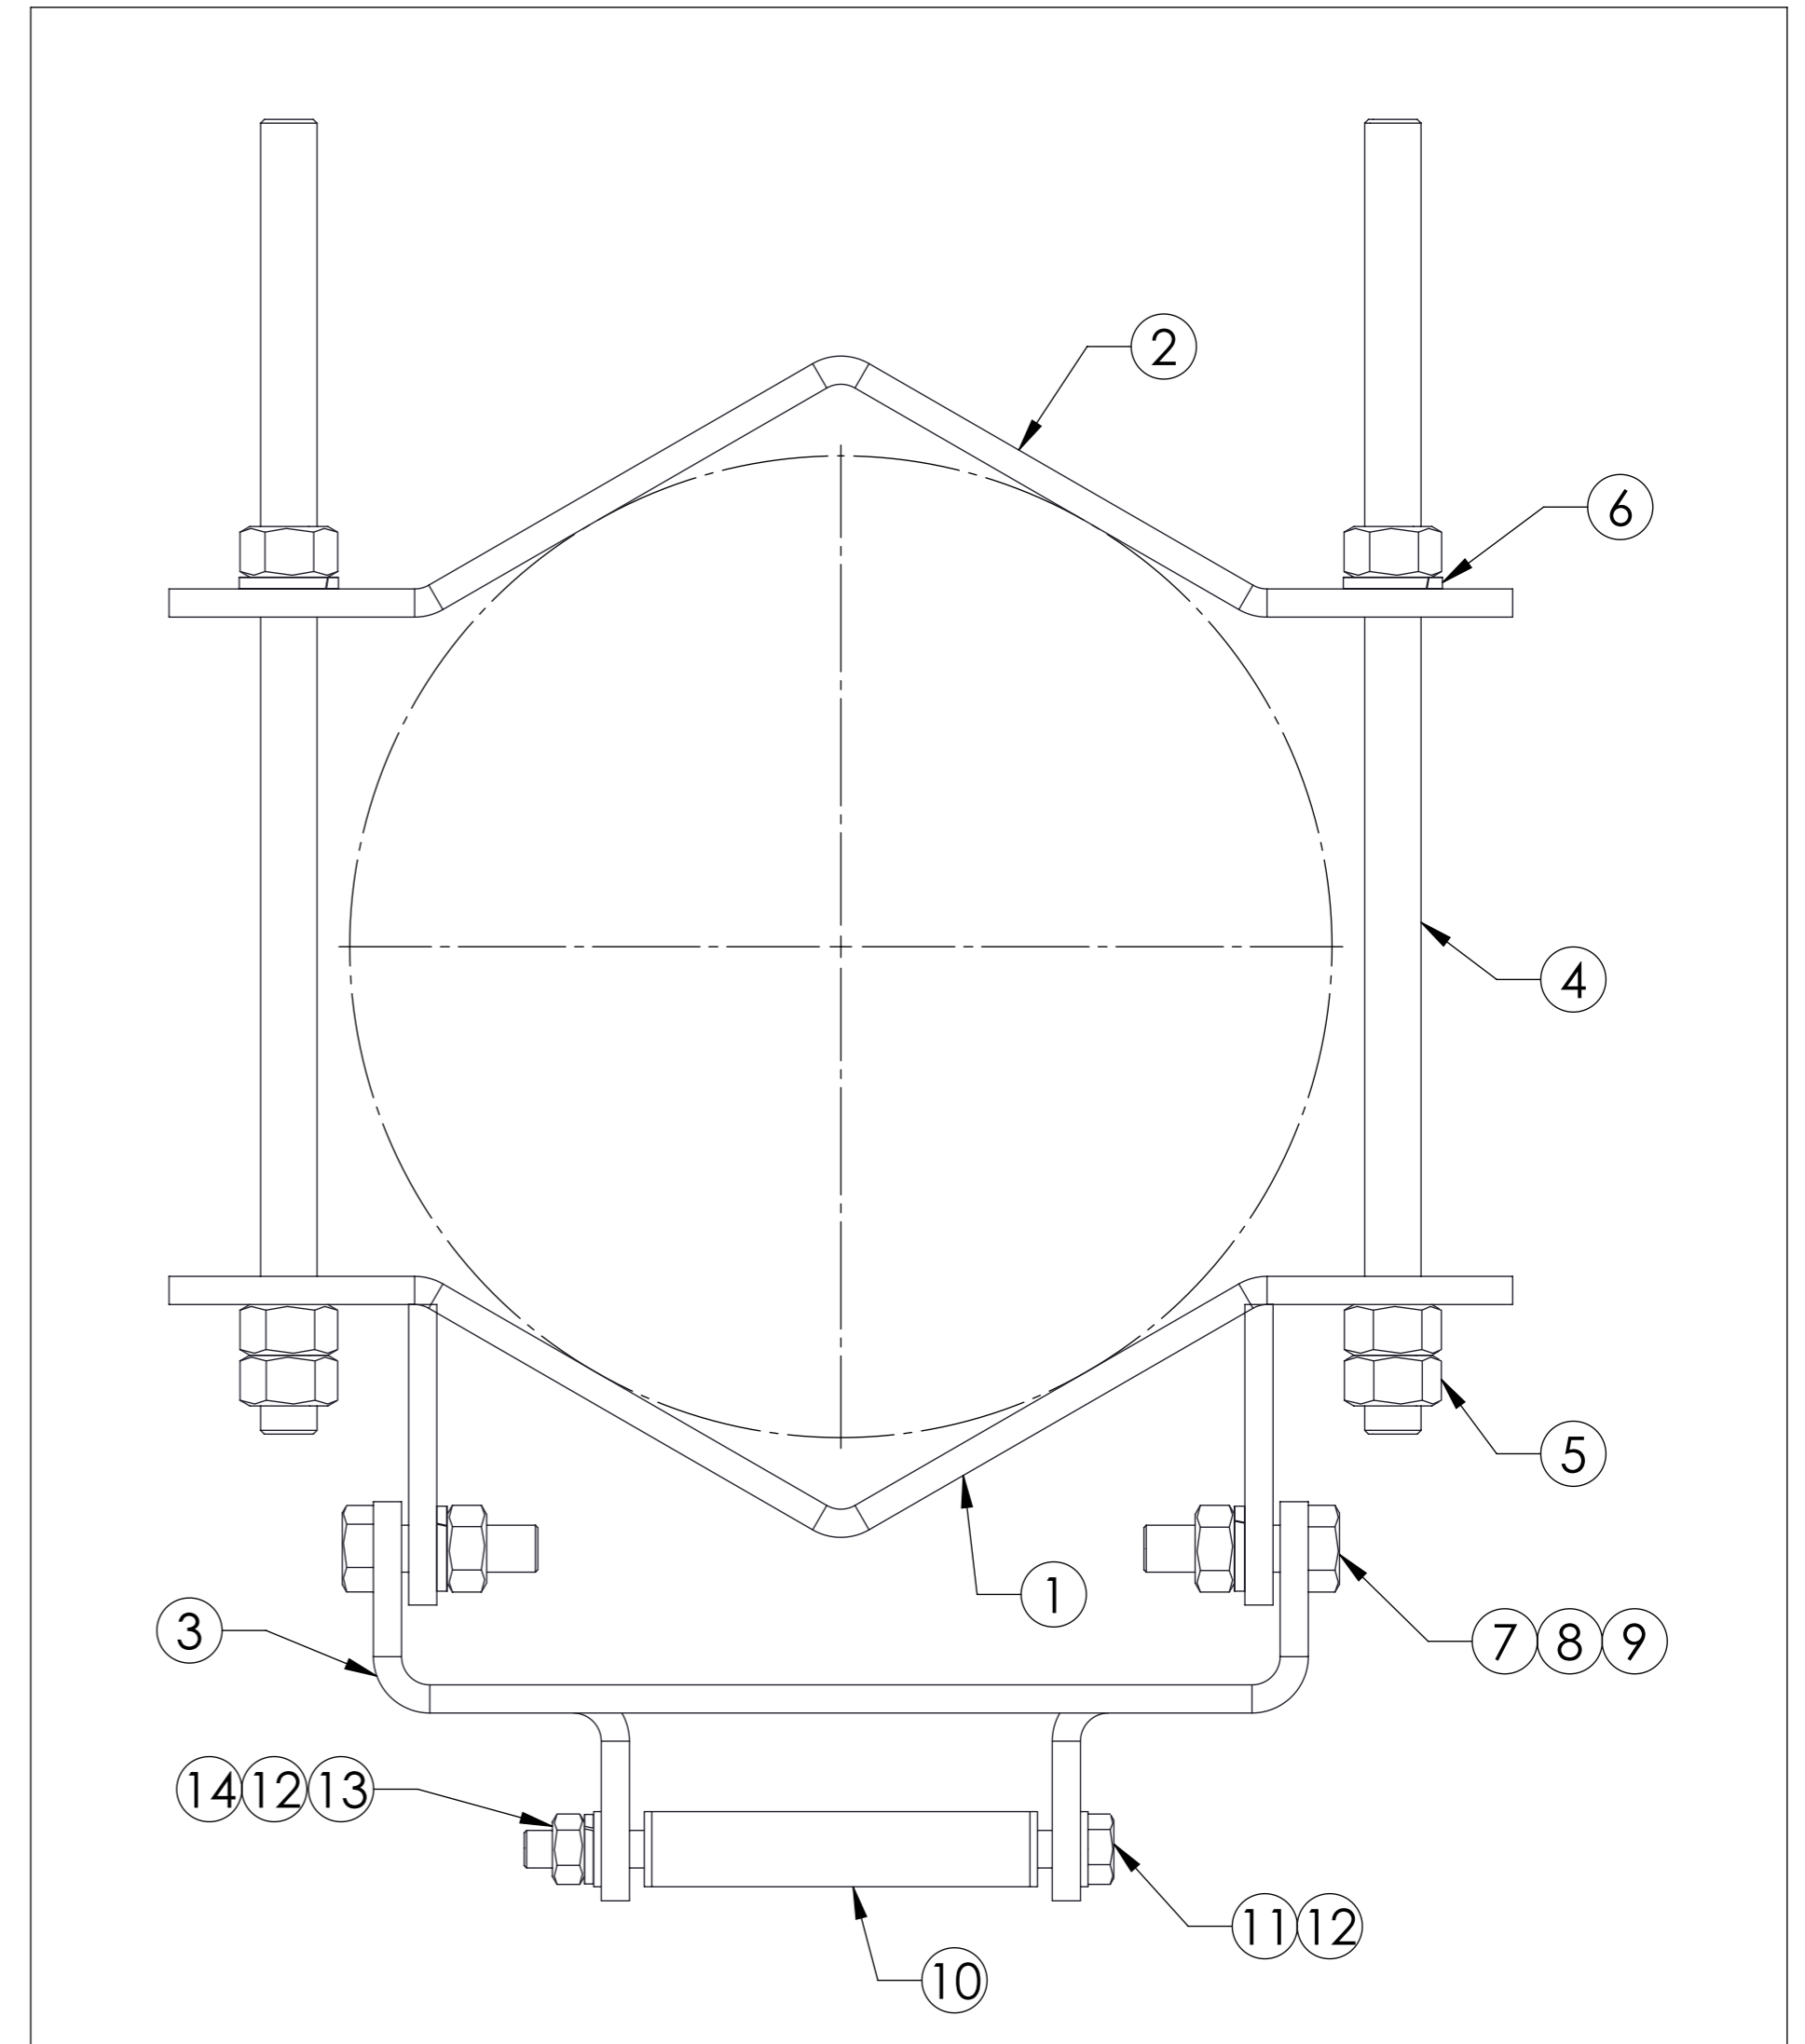
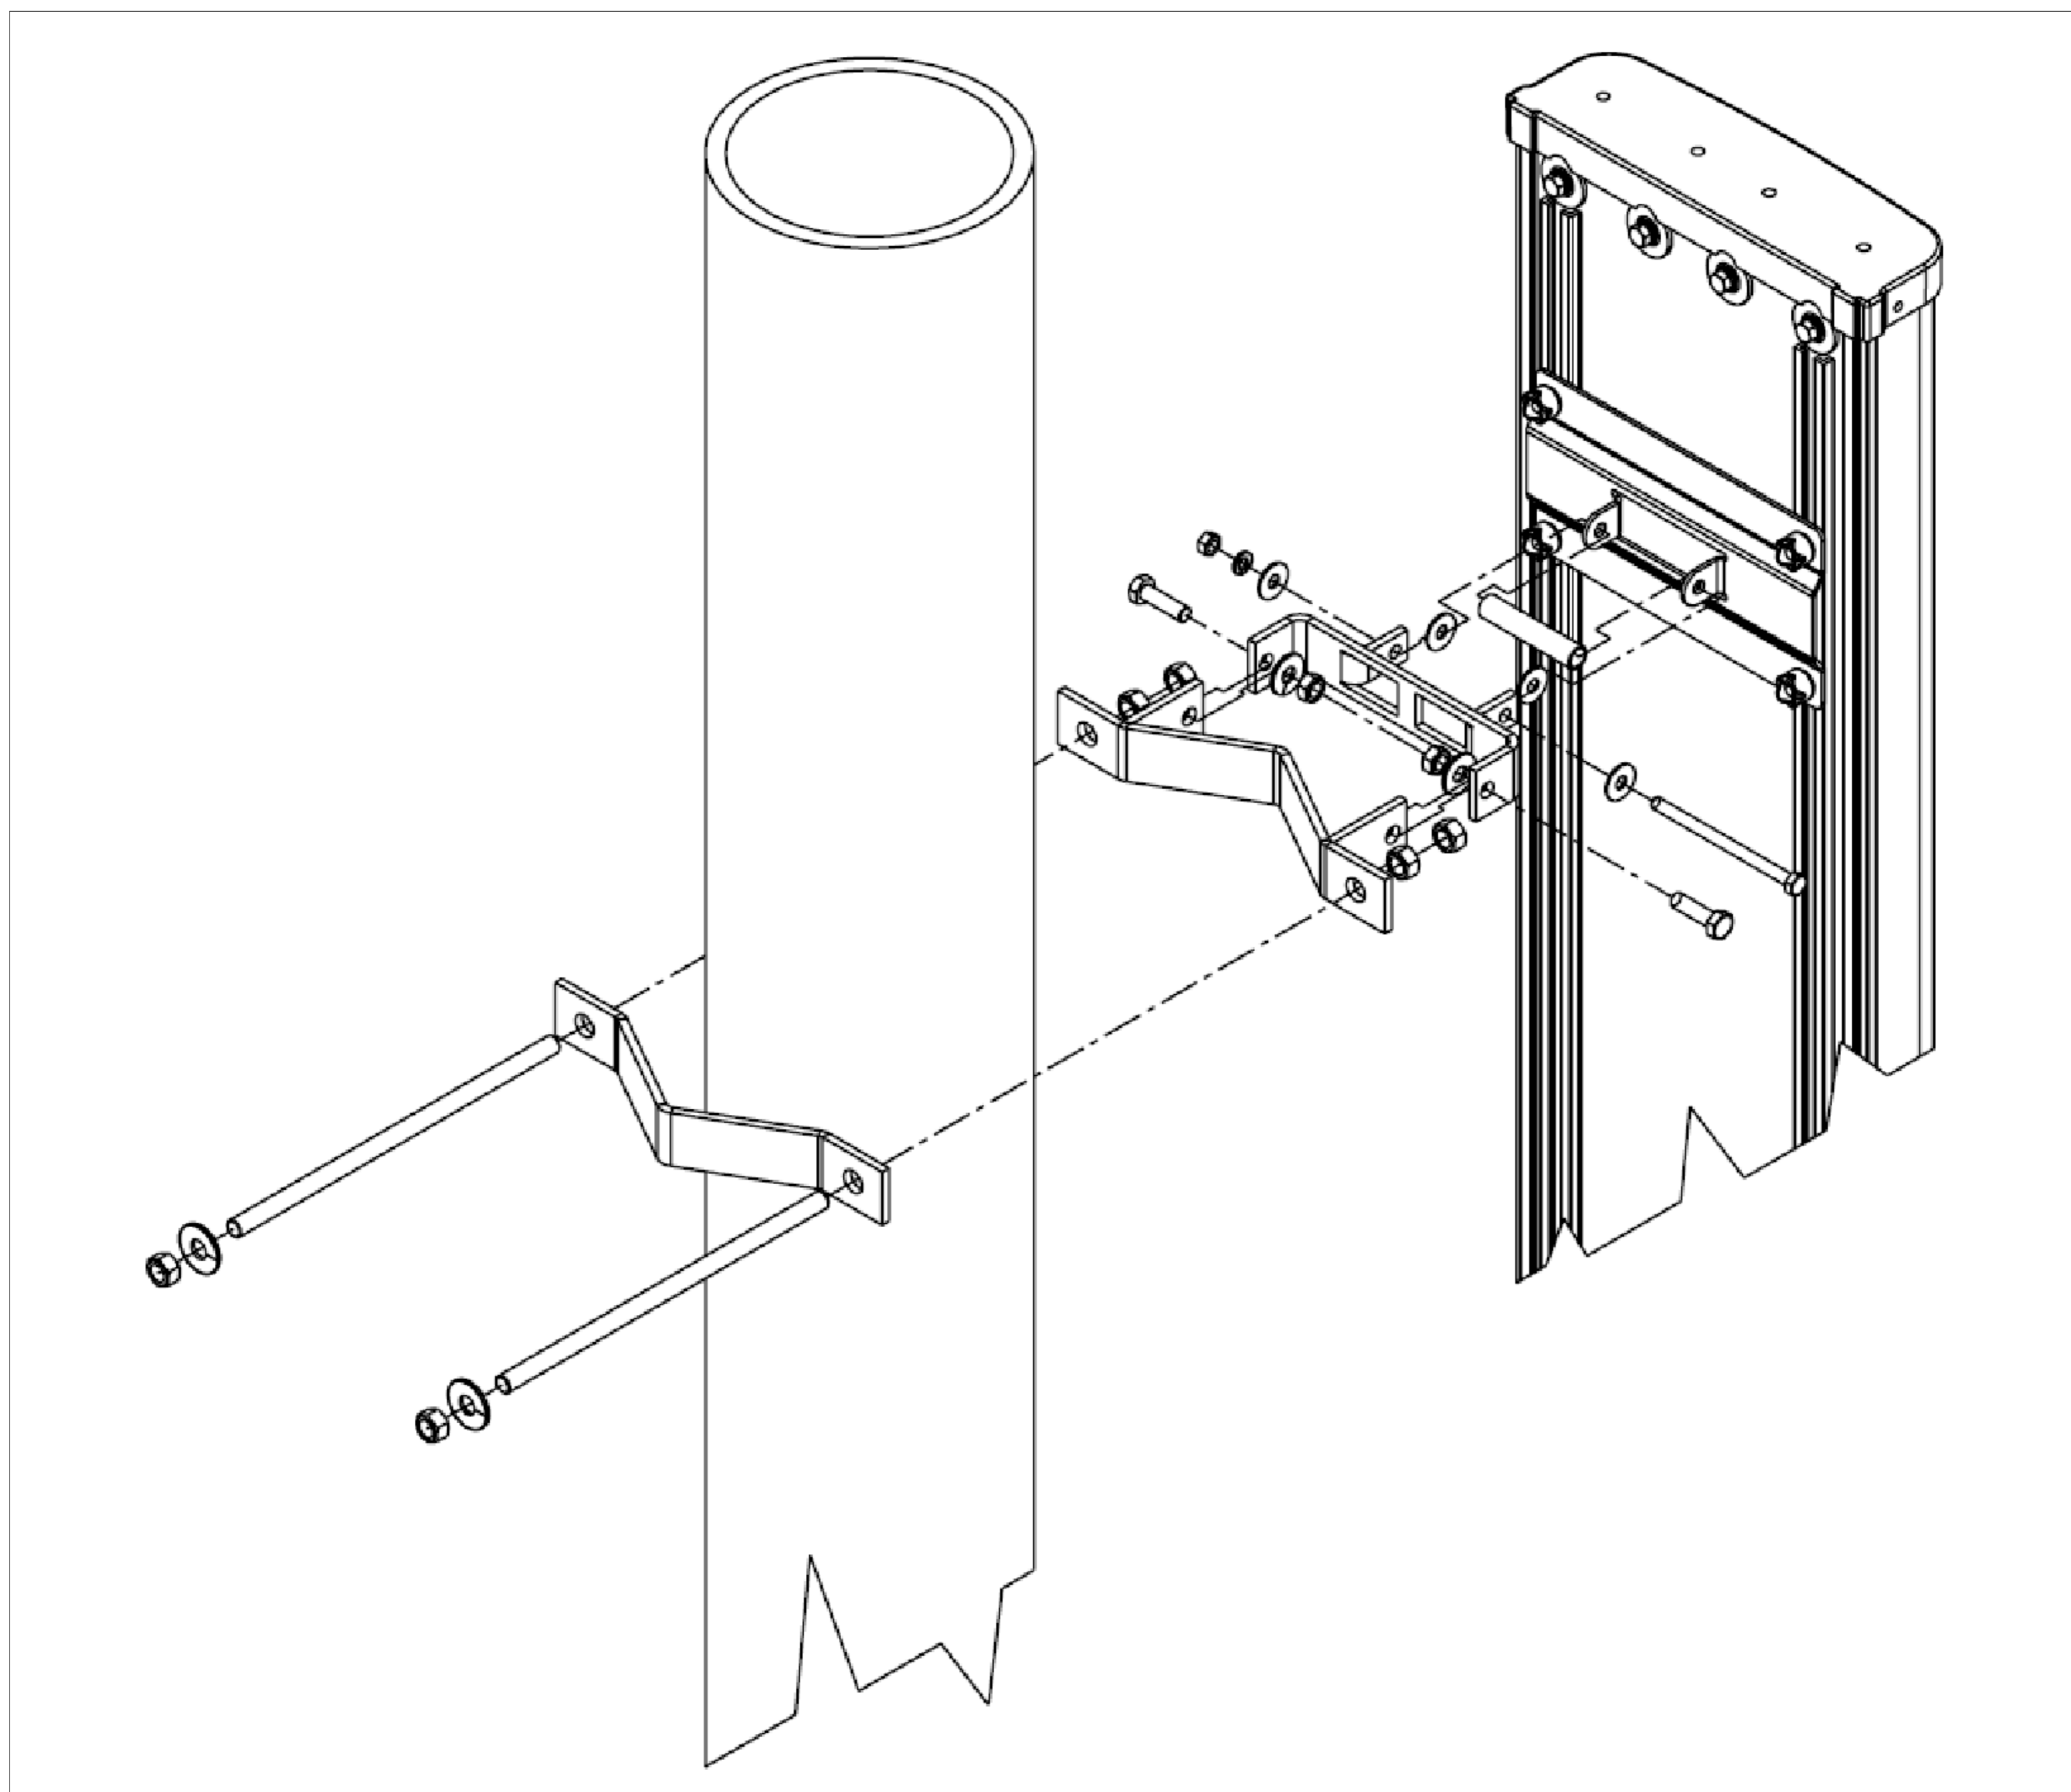

Figure 1. DB380-9 Pipe Mounting Kit.
Figure 2. Mounting Antenna to Mast Using DB380-9 Pipe Mount Kit
4. Attach the adapter brackets (Item 3 in Table 1 and Figure 1) to the top and bottom brackets on the back of the antenna using the spacer and the M8 hardware (Items 10 through 14, Table 1, Figures 1 and 2).
5. Insert the M12 bolts into the pipe brackets with tabs (Item 1 in Table 1 and Figure 1) and attach using 2 M12 nuts (Item 5, Table 1, Figure 1) as shown in Figure 2.
6. Using the M10 bolts, lock washers, and nuts (Items 7 through 9, Table 1, Figure 1), attach the pipe brackets with tabs to the antenna's adapter brackets (Figure 2).
7. Bring the antenna into position on the tower. From the other side of the tower, feed the pipe brackets without tabs (Item 2, Table 1, Figure 1) onto the M12 bolts and secure with M12 lock washers and nuts. See Figure 2.